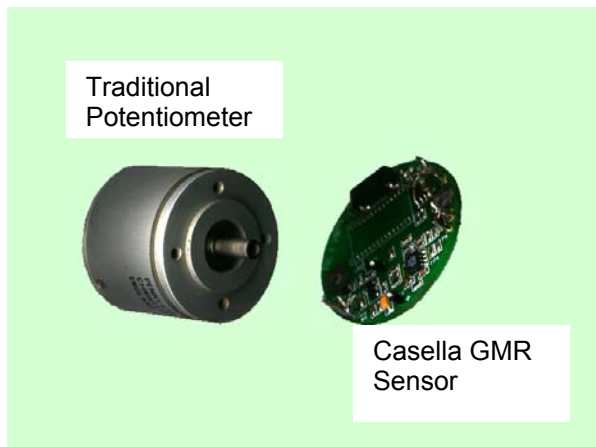

Figure 1
- **Size-** new GMR sensor chip is extremely small and the associated electronic printed circuit board (PCB) enables Casella to manufacture a much smaller housing and sensor. (see figure 1)